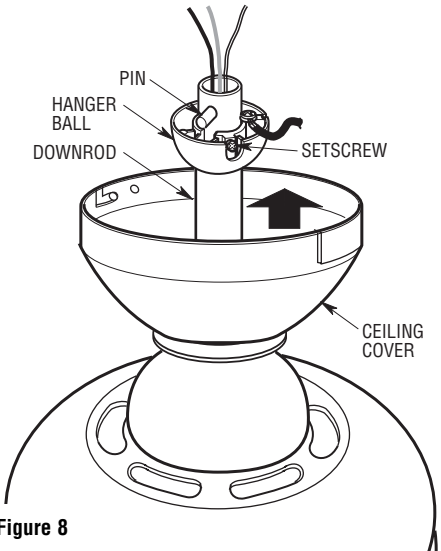

Figure 8
- ☐ 4. While pulling up on the downrod, ☐ 7. Reinstall the hanger ball (Figure 8) on the downrod as follows. Route the motor leads through the downrod. Position the pin through the two holes in the downrod and align the ball so the pin is captured in the groove in the top of the hanger ball. Pull the hanger ball up tight against the pin and securely tighten the setscrew in the hanger ball. A loose setscrew could create fan wobble.